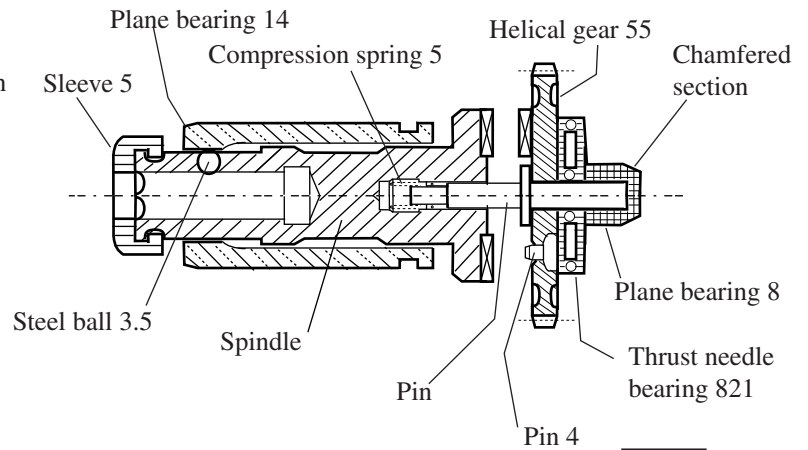

Fig.2
(2) After proceeding to assemble as per Fig.2, assemble them into housing.